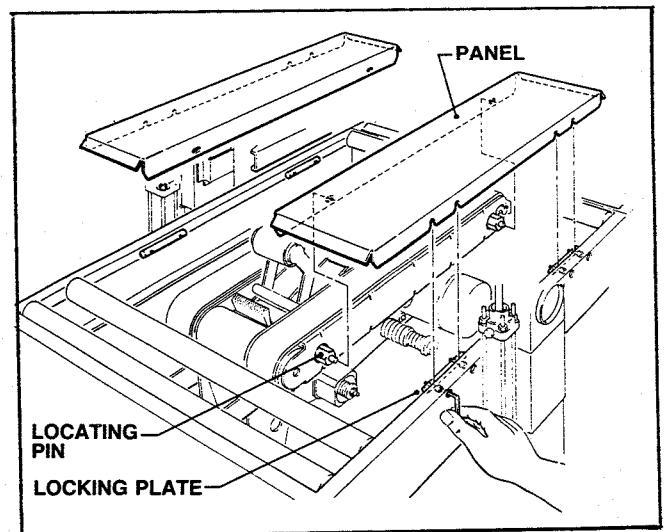

Figure 6 - Conveyor Bed Panels
Insert panel into (2) locating pins (see Figure 6) and pivot into locking plates and secure (4) locking screws with wrench provided.